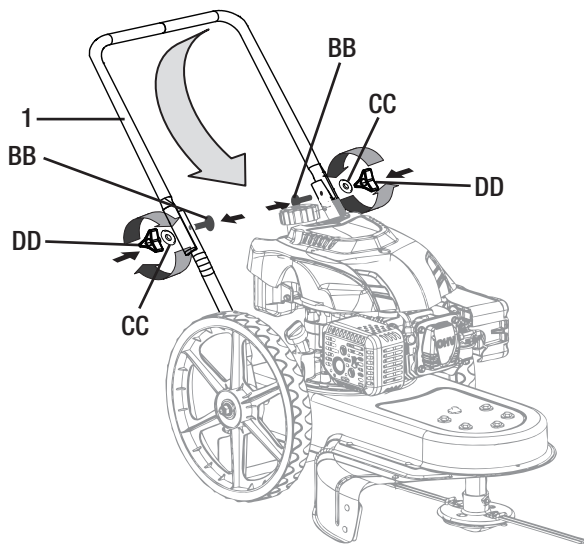

Figure 1-1
- Remove the star knob (DD) and carriage bolt (BB) from the left lower handle and the right lower handle.
- Pivot the middle handle (1) into the operating position and fasten the middle handle. See Figure 1-1.